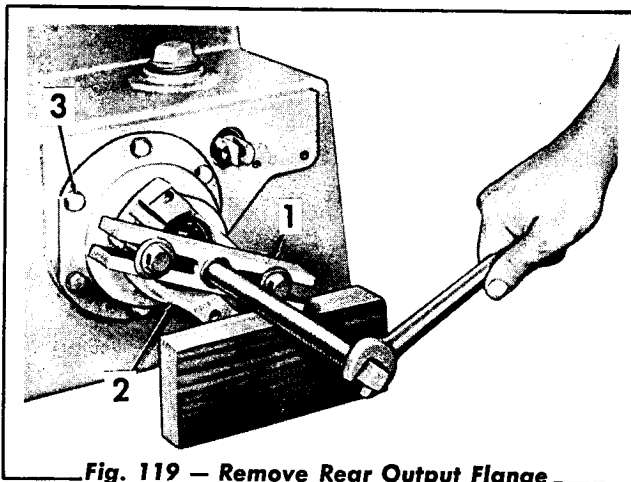

Fig. 119 — Remove Rear Output Flange
2. Using a puller (Fig. 119), remove the rear output flange. Remove the capscrews and the lockwashers from the bearing retainer.